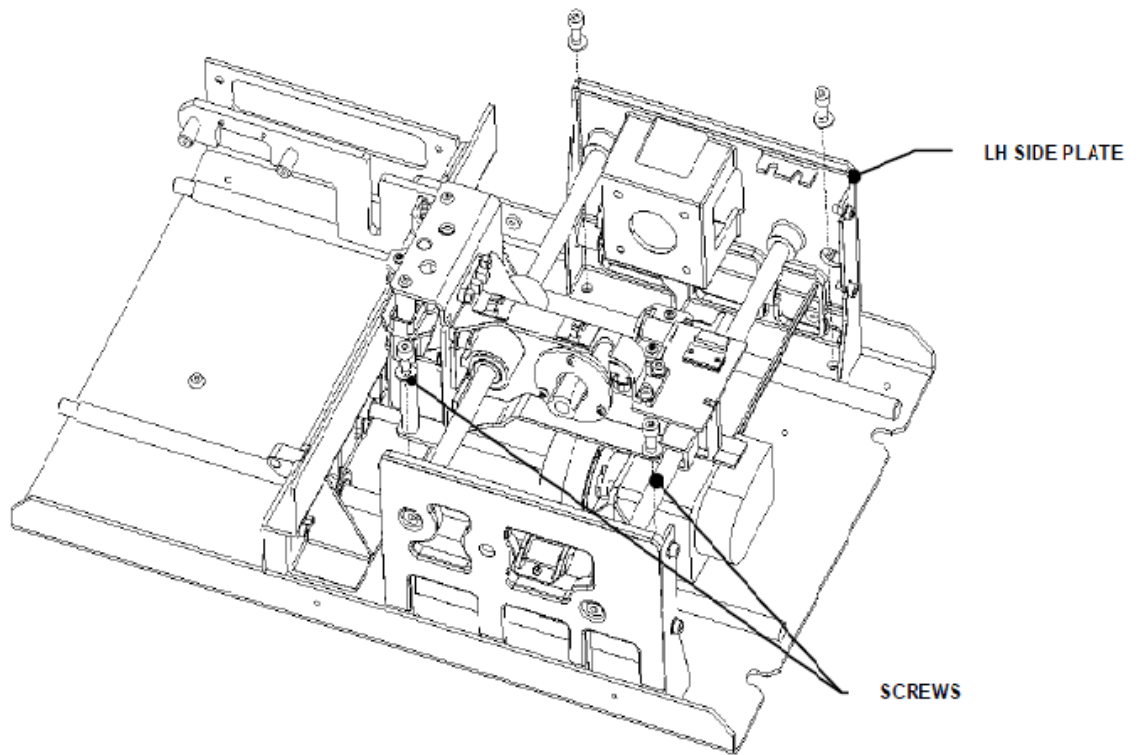

Figure AA-11: Removing the X Drive Assembly
3. Remove the X drive assembly from the baseplate by removing the four screws as shown in Figure AA-11.